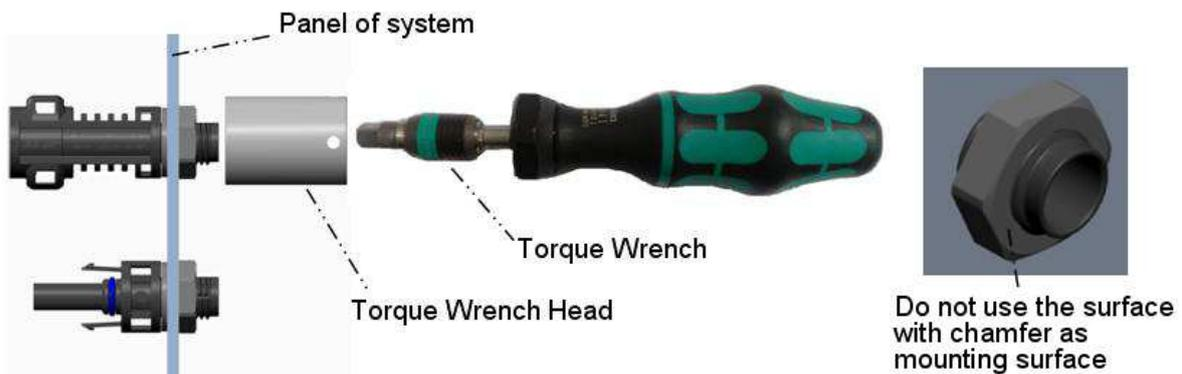

Figure 7
3) Use torque wrench head (PN 2232097-1) to tighten the nut (see Figure 7).